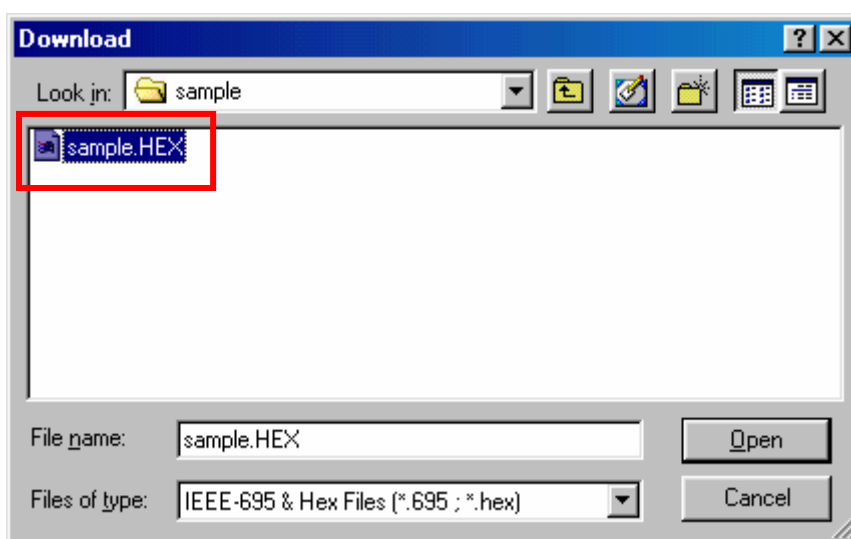

Figure 4-14 Download Screen
1) Select “File” - “Download” from the KD38 screen and download the sample program compiled at “4.1 Using” . (Figure 4-14)